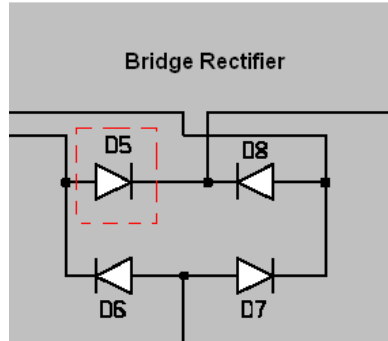

Figure 2.5: Placing D5 Schematic
2. Solder the 1N4004 diodes in at D5, D6, D7, and D8. See Figures 2.5 and 2.6 to see the placement of D5. Also, see *Appendix C: Schematics*, if you need a larger schematic of the charger board. **MAKE SURE TO SOLDER THE DIODE IN WITH CORRECT POLARITY!**